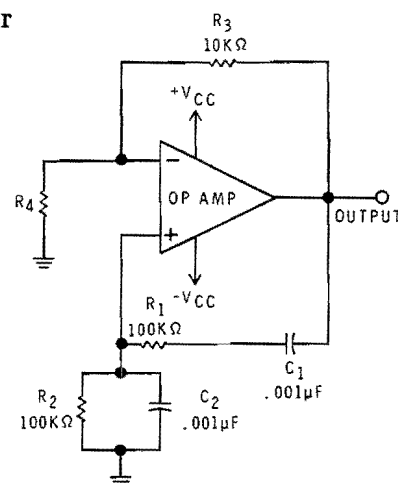

Figure 5-70
13. Figure 5-70 shows a Wien-bridge oscillator. For an undistorted sine wave output, the value of  $R_4$  should not be larger than:
14. The resonant frequency of the Wien-bridge determines oscillator frequency. The output frequency of the oscillator in Figure 5-70 is: